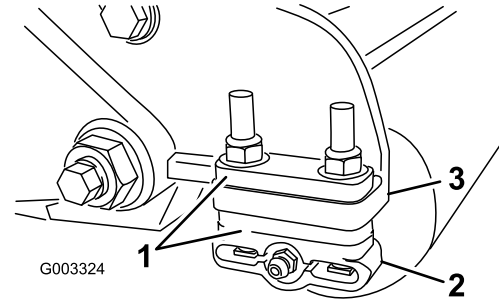

Figure 14
- Adjust the rear roller brackets (Figure 14) to the desired height-of-cut range by positioning the required amount of spacers below the side-plate mounting flange (Figure 14) per the HOC Chart.